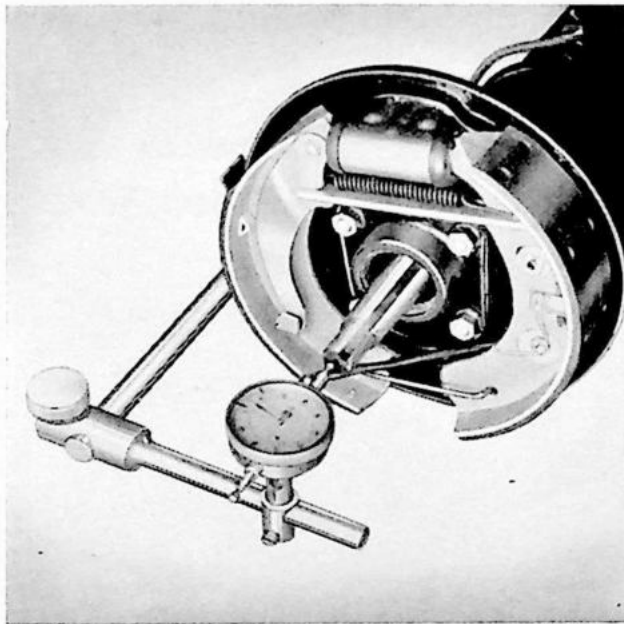

Fig. 22. Measuring axial clearance on drive shafts.
- On late production the right-hand side shims are replaced by a 1.5 mm (0.060") thick washer. Adjusting must therefore be done on the left-hand side. Place a dial indicator gauge on this side on the retaining device SVO 4054 and SVO 4148 which is secured to the brake backing plate. Place the measuring point of the dial indicator gauge against the end of the drive shaft and zero the indicator, see fig. 22.